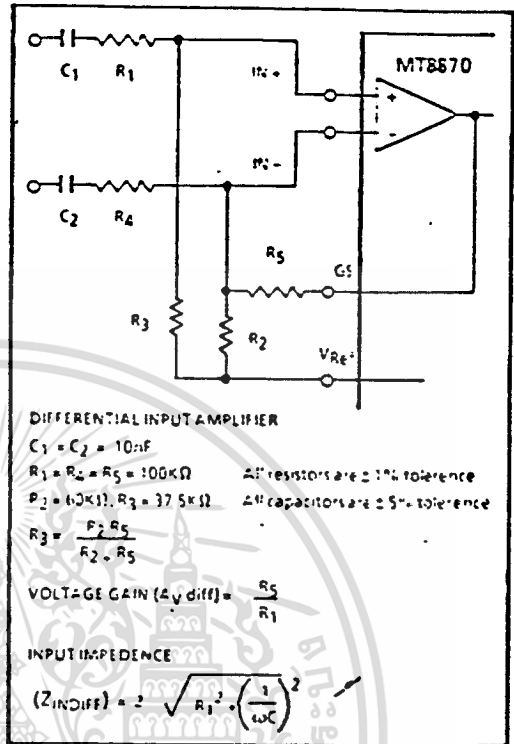

Figure 8. Differential Input Configuration
The input arrangement of the MT8870 provides a differential-input operational amplifier as well as a bias source ( $V_{REF}$ ) which is used to bias the inputs at mid-rail. Provision is made for connection of a feedback resistor to the op-amp output (GS) for adjustment of gain. In a single-ended configuration, the input pins are connected as shown in Fig. 2 with the op-amp connected for unity gain and  $V_{REF}$  biasing the input at  $\frac{1}{2}V_{DD}$ . Fig. 8 shows the differential configuration, which permits the